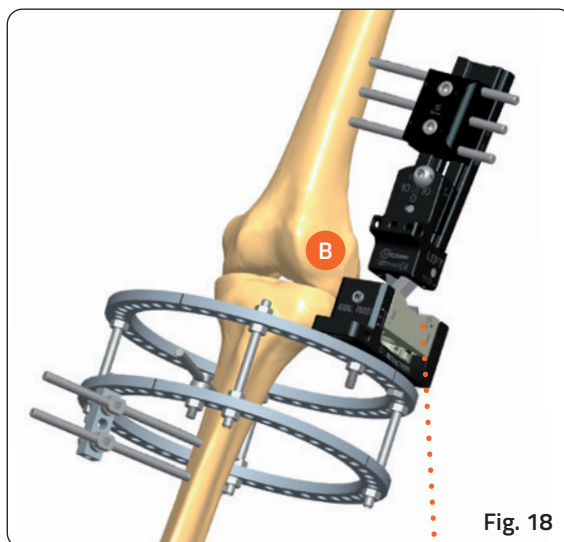

Fig. 18
- Remove the wires and wire guides. Insert the screws after drilling with 4.8mm drill guide and drill bit (Fig. 18).